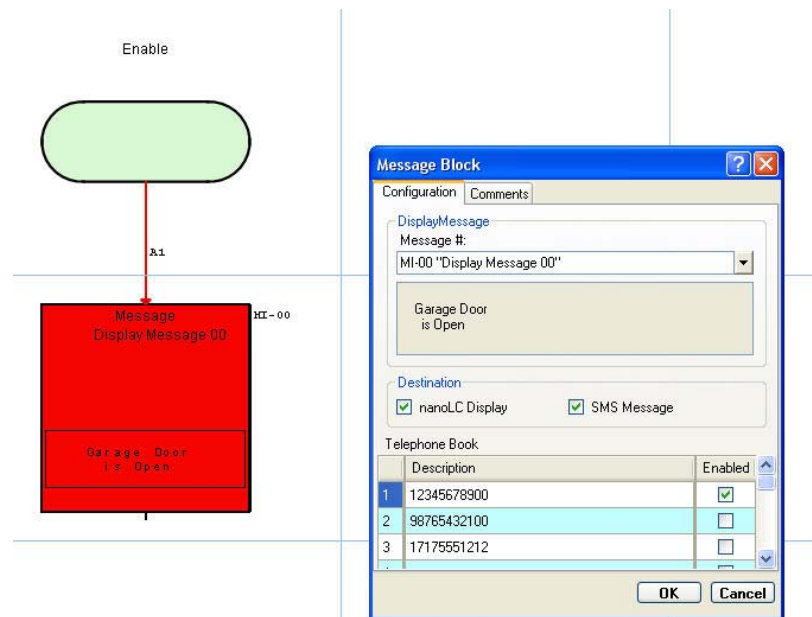

Figure 3-8 “Message Block” dialog box (nanoNavigator 4.x)
- Project Msg Notify: Sends messages created in the project using the Message Editor to the listed telephone number. For nanoNavigator 4.x, this is an indicator only. Selection to send this type of message is made in the Message Block (see Figure 3-8).